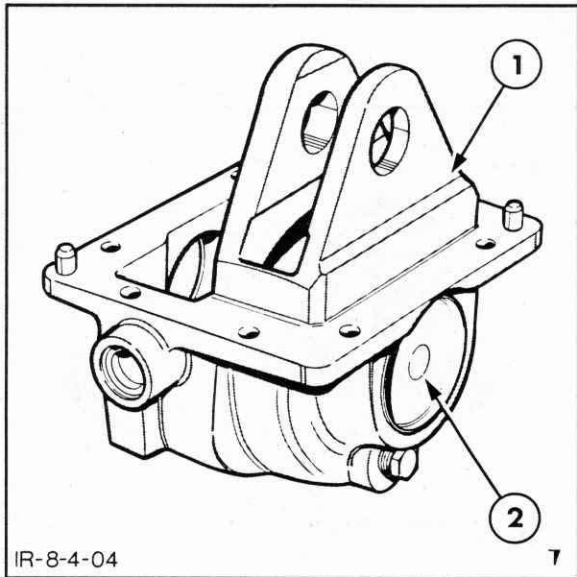

Figure 7-142
5. Remove the blanking plug in the rear of the transfer case, Figure 7-142.